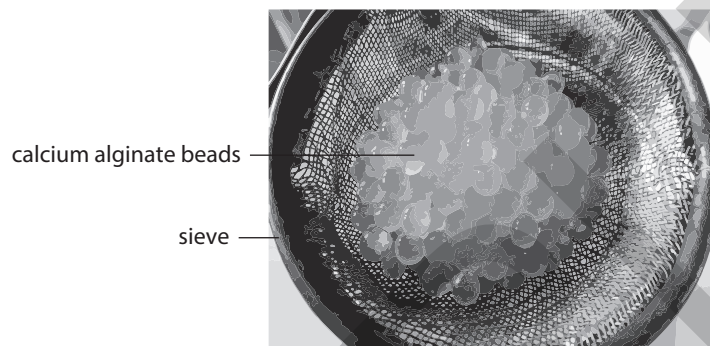

Figure 3.5
- 6 Carefully collect the beads (do not break them up) into the tea strainer, and wash gently using distilled water (Figure 3.5).